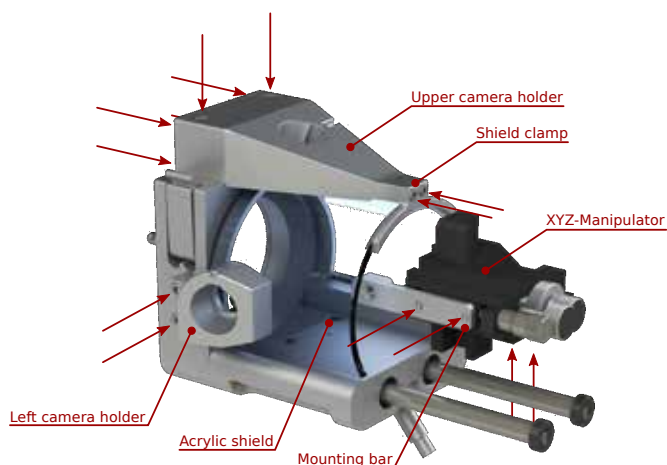

Fig. 6: Thermo Scientific ES072 source
- Remove the shield clamp, the upper and left camera holder, the acrylic shield, the XYZ-manipulator and the attached mounting bar by loosening the screws marked in Fig. 6.